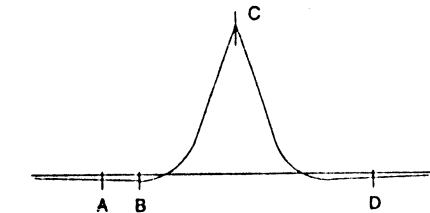

Fig. 16 AFT Adjustment (Refer to table 1)
2. Adjust the AFT-BAL (FL409) shown in Fig. 16.